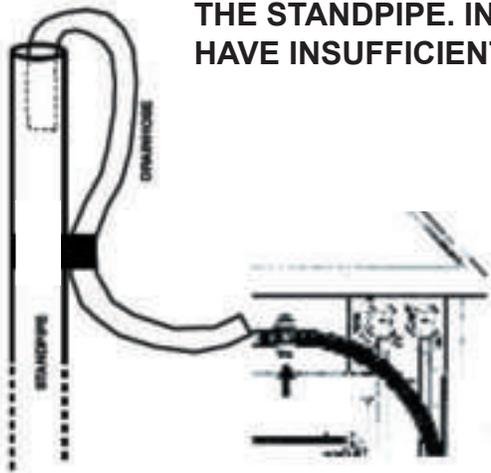

Figure 2
- Outlet end of drain hose (See figure 2) must be at least 20" above bottom of washer. Do NOT block top of standpipe closed with tape or other materials. An air break must be provided at the standpipe to avoid siphoning.